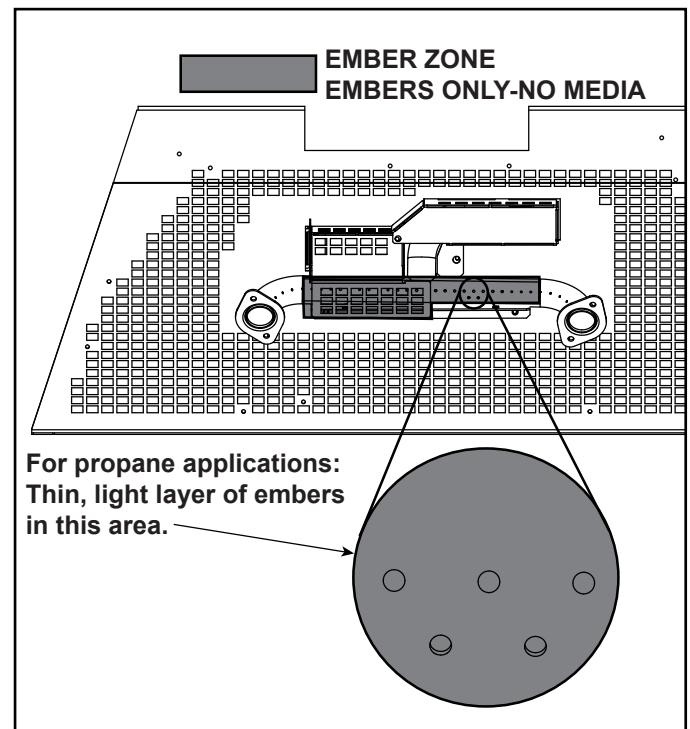

Figure 19 Ember Zone
- Place dime-size embers in the ember zone as shown in Figure 19. The embers must be placed loosely over the port holes and pilot shield. Do not press embers down or into the holes. Create a single layer, no more than 1/4 inch thick.
**NOTICE:** For Propane applications, embers must be applied in a thin, light layer in the portion of the zone indicated in Figure 19.